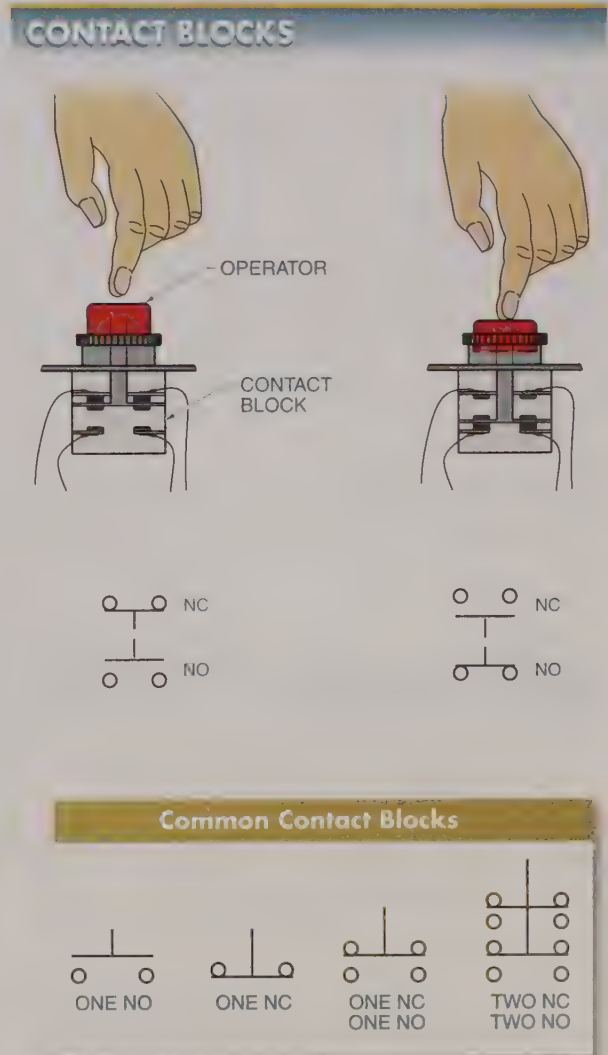

Figure 6-3. Contact blocks include normally open (NO), normally closed (NC), or both NO and NC contacts.
A *contact block* is the part of the pushbutton that is activated when the operator is pressed. A contact block includes the switching contacts of the pushbutton. Contact blocks include normally open (NO), normally closed (NC), or both NO and NC contacts. The most common contact block includes one NO and one NC contact. NO contacts make the circuit when the pushbutton operator is pressed and are used mainly for start or ON functions. NC contacts break the circuit when the pushbutton operator is pressed and are used mainly for stop or OFF functions. More than one contact block may be added to an operator. See Figure 6-3.